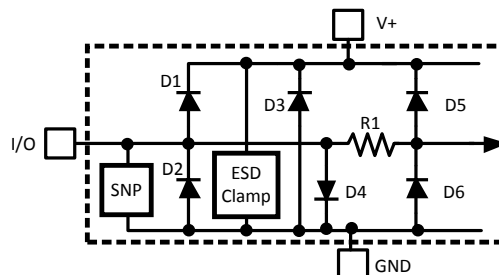

Figure 1. ESD Protection Input Structure
- (1) Absolute Maximum Ratings indicate limits beyond which damage to the device may occur. DC and AC electrical specifications do not apply when operating the device beyond its rated operating conditions.
- (2) When the input voltage (V_I) at any pin exceeds the power supplies ($V_I < GND$ or $V_I > V_{DD}$), the current at that pin should be limited to 5 mA. Parasitic components and or ESD protection circuitry are shown in Table 1 and Figure 1 for the LM86's pins. The nominal breakdown voltage of D3 is 6.5 V. Care should be taken not to forward bias the parasitic diode, D1, present on pins: D+, D-. Doing so by more than 50 mV may corrupt a temperature measurements.
- (3) See the URL "<http://www.national.com/packaging/>" for other recommendations and methods of soldering surface mount devices.
- (4) Human body model, 100pF discharged through a 1.5k Ω resistor. Machine model, 200pF discharged directly into each pin.